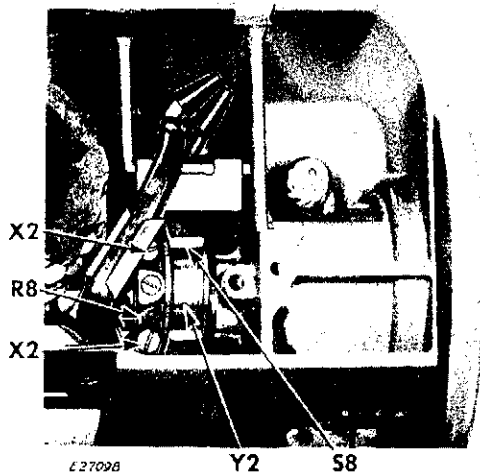

Fig. 317. Feed Lifting Connecting Rod on Arm Shaft
2. Remove two cap screws **X2**, **Fig. 317** and remove connecting rod cap **R8**, **Fig. 317**.
Fig. 317 and so that the oil hole in the lower end of the rod faces the front edge of machine bed.
2. Replace cap **R8** over top half of gear hub and fasten cap to rod with two screws **X2**, **Fig. 317**.
arm, through bottom of machine, so that it fits around eccentric **Y2** from bottom, as shown in **Fig. 317**.